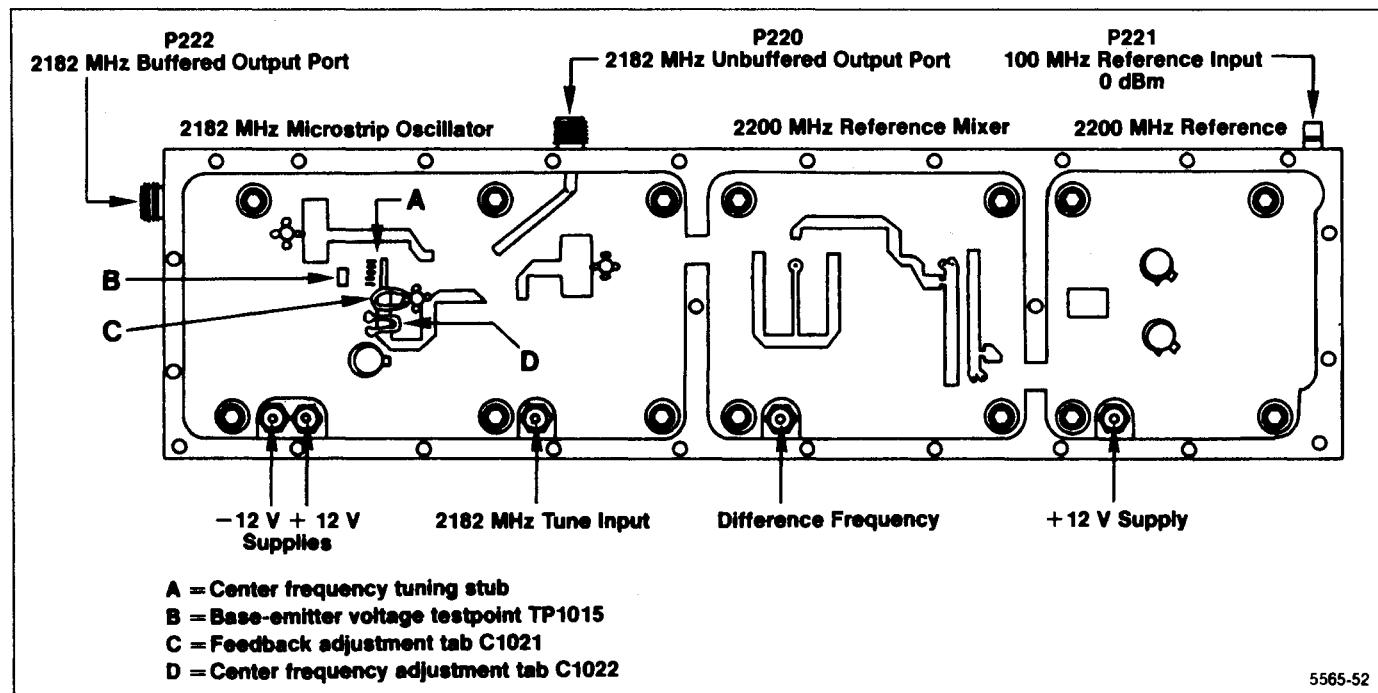

Figure 6-21. 829 MHz Converter oscillator adjustment and test point locations.
Install a  $50\Omega$  terminator on the 2182 MHz buffered output port, P222, (see Figure 6-21).
e. Bend the feedback and frequency adjusting tabs, C1021 and C1022 (see Figure 6-21) so they are approximately 30 degrees above the board surface.
h. Check Vbe at TP1015 (B in Figure 6-21). If Vbe is greater than +0.5 V, push the feedback adjustment tab down slightly and if less than -0.3 V, lift the tab. If Vbe is greater than +0.8 V, replace the microstrip oscillator board. If Vbe is more negative than -1 V, check the bias circuitry. Adjust the tab so Vbe is +0.15 V,  $\pm 0.05$  V at TP1015. Do not touch the feedback tab while measuring voltages.
i. Check that the 2nd L.O. signal (frequency) is within one major division of the center graticule line (2.181 GHz to 2.183 GHz). Bend the frequency adjustment tab C1022 (D in Figure 6-21) to bring the oscillator within tolerance. (Bend the tab up to increase frequency and down to lower frequency.) If unable to bring the oscillator frequency within range, replace the 2182 MHz Oscillator board.
b. Confirm that the output signal frequency is 18 MHz  $\pm 1$  MHz. Adjust the tab C1022 (Figure 6-21) for the 2182 MHz Microstrip Oscillator, to bring the 18 MHz within the 1 MHz tolerance.